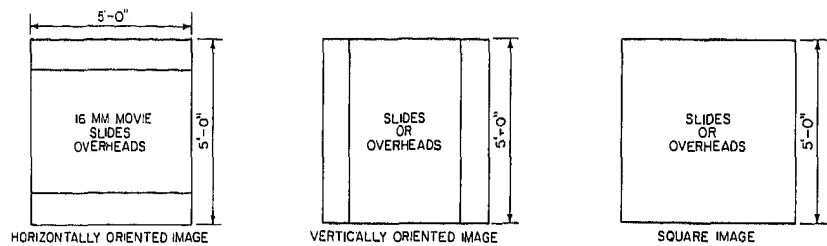

Fig. 9 A square screen will permit horizontal, vertical, and square images to be shown.
**Screen image area** The most useful screen is one that is square, as it will permit both vertical and horizontal images, as well as square ones, of course (Fig. 9). A single image format will need one such screen, while a dual format will have a viewing surface that is the width of two images placed side by side (Figs. 9 and 10).